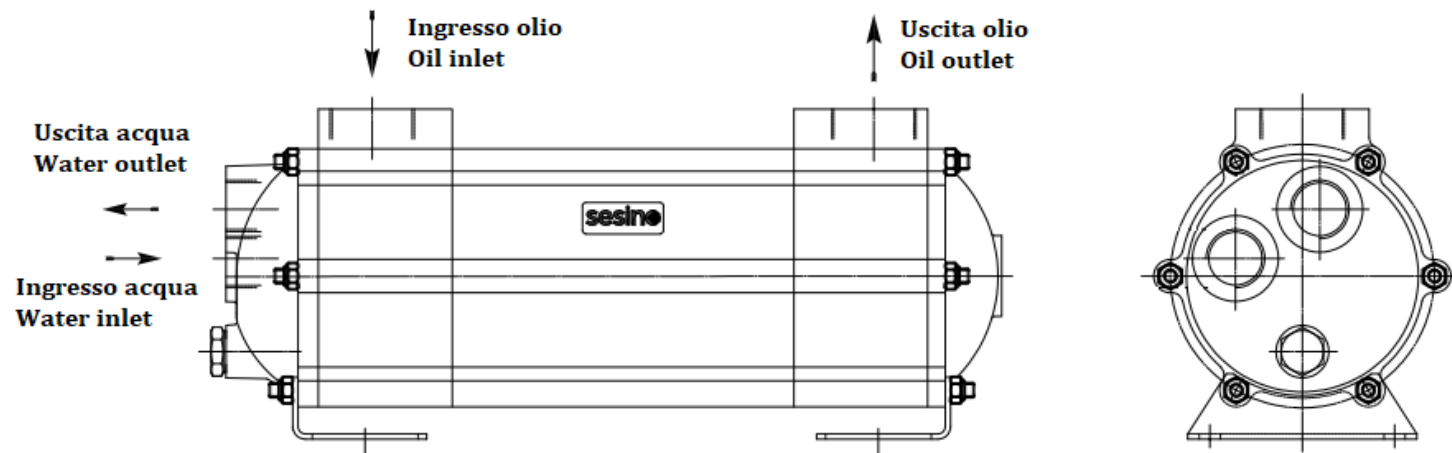
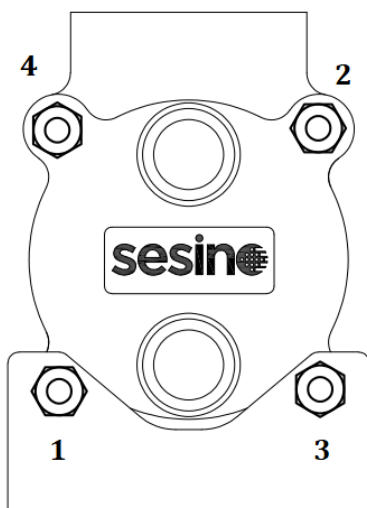

Figure 4: MSG 134 installation
Figure 5: MSG 84 tightening sequence.
To reassemble the cover proceed in the opposite direction, taking care to replace the O-Ring (pos. 8) with a new one. After bringing all the nuts to the cover surface, apply the tightening torque of about 12Nm evenly diagonally (see example below Figure 4 and Figure 5) without over tightening.